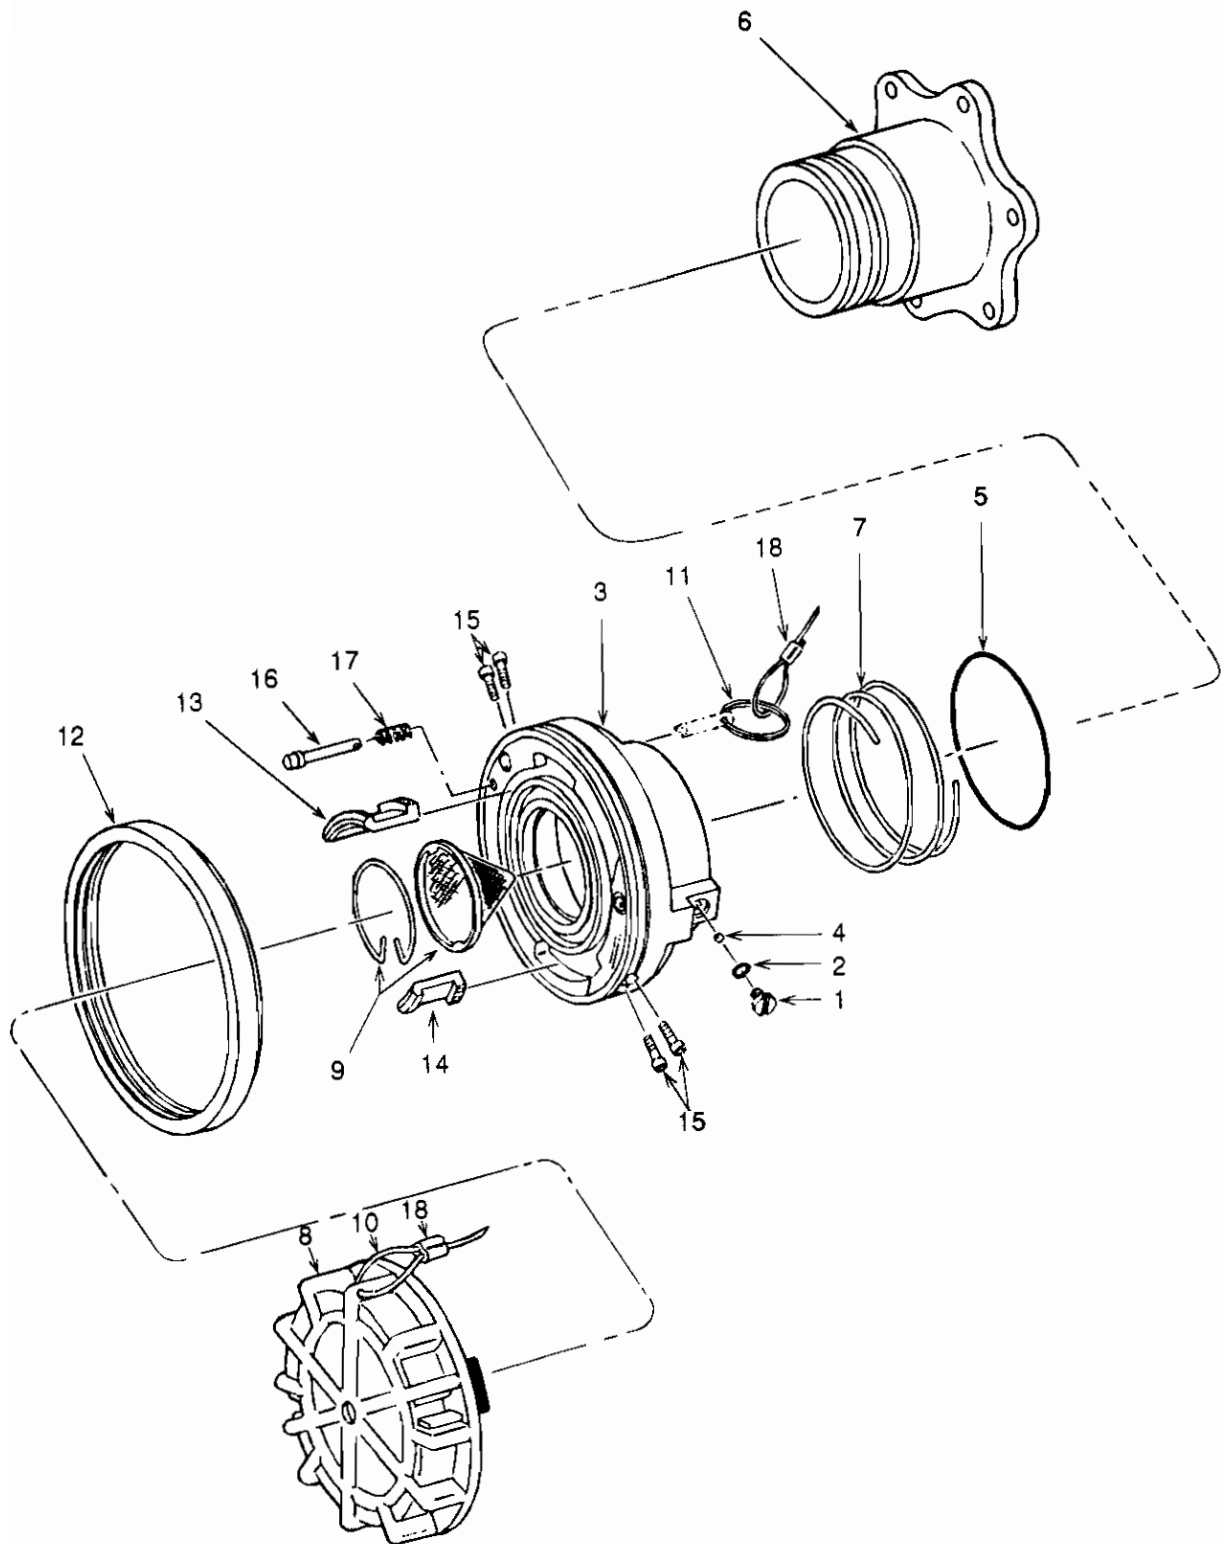

Figure 4-3.1. Repair of Two-Inch Non-Valved Screened Unisex Coupling
a. Disassembly and Inspection. (Refer to figure 4-3.1.)
1. Remove ball retaining screw (1) and preformed packing (2).
2. Hold unit over a suitable container with screw hole oriented toward container. Rotate 2-inch non-valved unisex coupling (3) back and forth until all 41 balls (4) have collected in the container.
3. Remove 2-inch non-valved unisex coupling (3) and preformed packing (5) from D-1 nozzle inlet adapter (6).
4. Remove spring (7) from 2-inch non-valved unisex coupling (3).
5. Remove dust cap (8) from 2-inch non-valved unisex coupling (3).
6. Remove screen assembly (9) from 2-inch non-valved unisex coupling (3).
7. If dust cap (8) or cable (10) is to be replaced, cut cable (10) to remove.
8. Ring (11) attaching dust cap (8) to 2-inch non-valved unisex coupling (3) may be removed from the cable (10) by rotating it through the split portion of the ring (11).
9. Remove the bumper (12) only if it is to be replaced or the lugs (13 and/or 14) must be replaced.
10. Remove screws (15) to remove lugs (13 and/or 14).